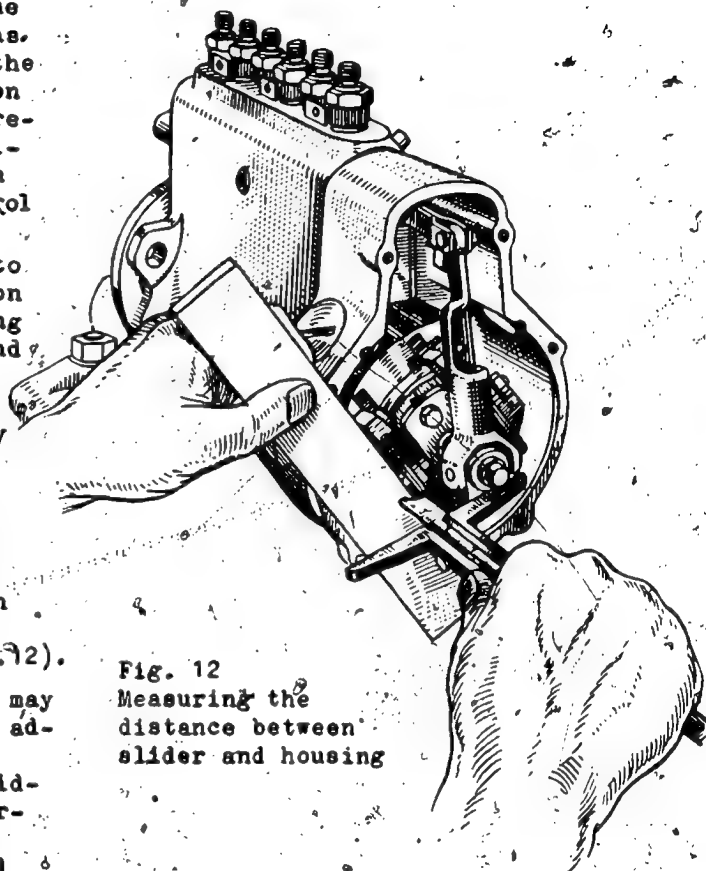

Fig. 12
1. Introduce adjusting pin (7), push coupling bolt (24) through bell crank levers and bearing bolt (59). See that the coupling bolt does not jam. Care: Do not use a reamer after assembly. Screw-on hexagon nut, insert lock washer (23), and screw-on lock nut. Adjust axial play of coupling bolt to 0.5 to 1 mm, with bell crank levers forced apart and tighten nut and lock nut against each other. Do not yet bend tab washer (23).
4. Insert slider (4) into adjusting pin, tension drag spring by pulling on the slider, suspend floating lever (15) horizontally in the slider, tilt it up by 90° and couple it to the link fork. Place a ruler on the housing, and measure the distance between slider and ruler with a vernier caliper or depth gauge (see Fig. 12).